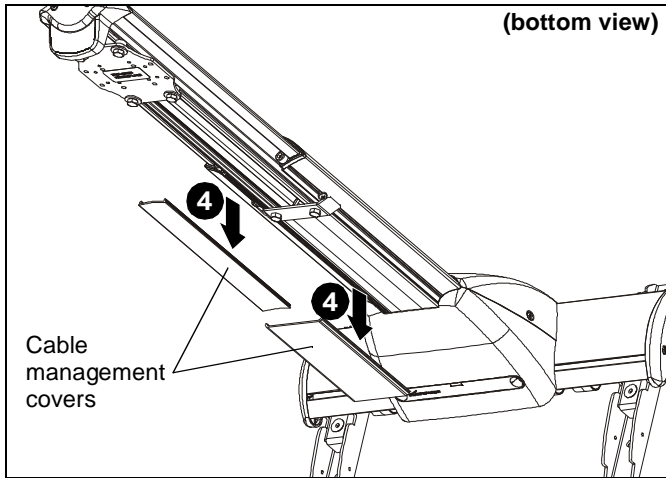

Figure 55
4. Remove cable management covers (if necessary) from short throw projector arm. (See Figure 55)